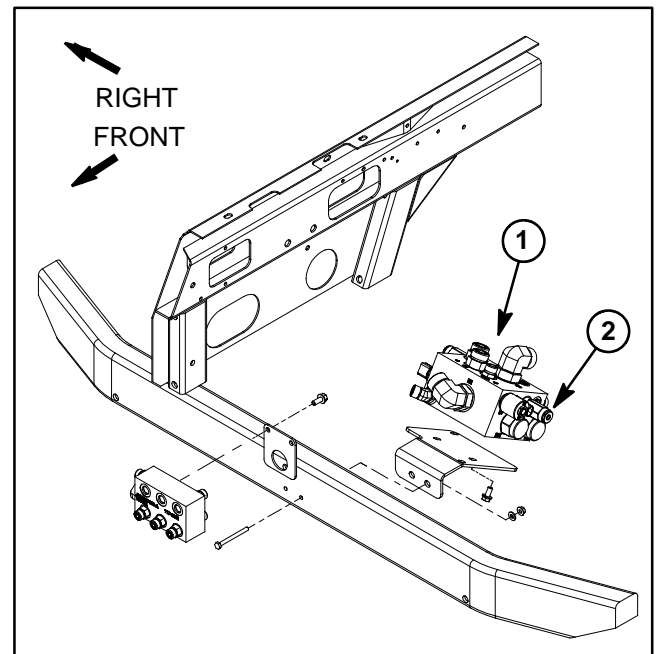

Figure 34
3. Measure and record traction circuit pressure reducing valve (PR) pressure (see Traction Circuit Pressure Reducing Valve (PR) Pressure Test in this section).
4. Connect a 1000 PSI (70 bar) pressure gauge to test fitting (port G) on rear side of 4WD/2WD control manifold under front of machine (Figs. 34 and 35). This is the same pressure gauge position as used to measure traction circuit pressure reducing valve (PR) pressure.
7. Operate the machine in mow speed (4WD) with the cutting units lowered. Drive down a slope in a forward direction and decrease pressure on the traction pedal while carefully monitoring the pressure gauge. Pressure should increase until relief valve (RV) lifts.
9. Relief (RV) pressure should be **at least 100 PSI (7 bar) higher than the traction circuit pressure reducing valve (PR) pressure and also be between 520 and 570 PSI (36 to 39 bar)** (e.g. if the pressure reducing valve (PR) pressure is 450 PSI (31 bar), relief (RV) pressure should be from 550 to 570 PSI (38 to 39 bar)).
**NOTE:** Rear traction circuit relief (RV) pressure should be at least 100 PSI (7 bar) higher than traction circuit reducing (PR) pressure. If the difference in these pressures is less than 100 PSI (7 bar), reverse traction performance may be affected.
10. If specification is **not** met, clean or adjust relief valve (RV) which is located on the left side of the 4WD/2WD control manifold in the RV port (Fig. 34) (see Adjust Control Manifold Relief Valves in the Adjustments section of this chapter for valve adjustment procedure). Recheck relief (RV) pressure after adjustment.